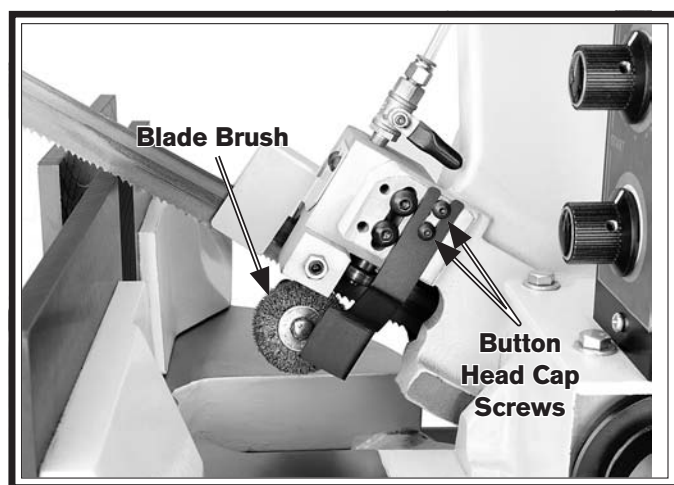

Figure 41. Blade brush adjustments.
2. Loosen the button head cap screws shown in **Figure 41**.